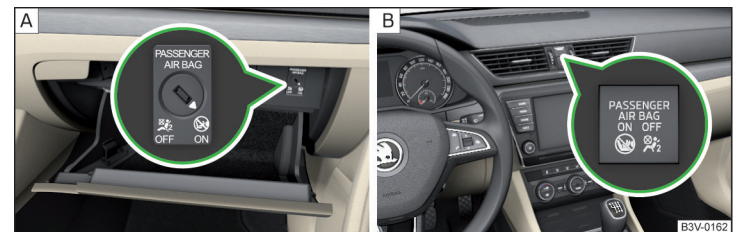

Fig. 14 Key-operated switch for the front passenger airbag / warning light for front passenger airbag
The front passenger airbag can be switched off with the key-operated switch » Fig. 14 on page 19 - [A].
Key switch positions » Fig. 14 - [A]
- Use the key to turn the slot of the key switch » Fig. 14 [A] carefully into the position **OFF**.
- › Check that the warning light **OFF**  under the text **PASSENGER AIR BAG** » Fig. 14 -  lights up after the ignition is switched on.
- › Use the key to turn the slot of the key switch » Fig. 14  carefully into the position **ON**.
- › Check that the warning light **ON**  under the text **PASSENGER AIR BAG** » Fig. 14 -  lights up after the ignition is switched on.